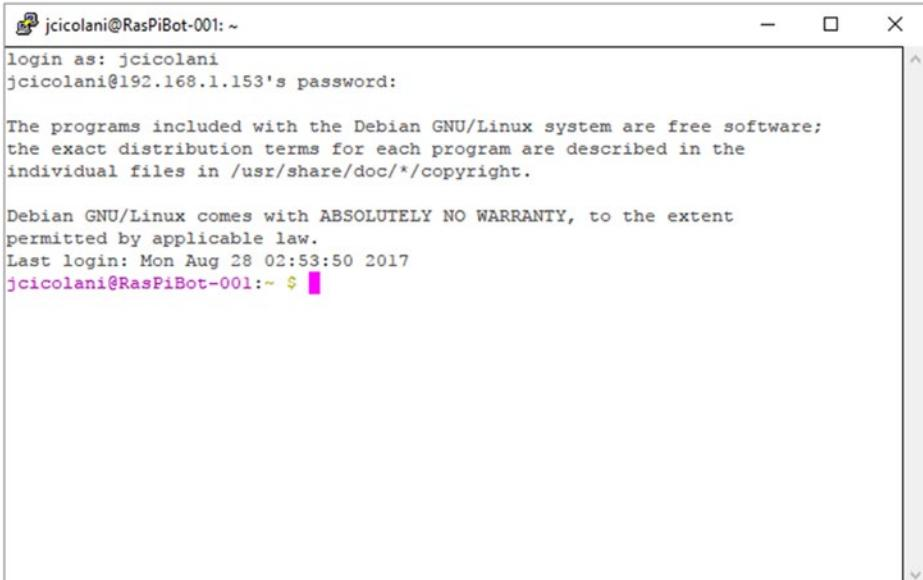

Figure 2-11. Security warning on first SSH connection with PuTTY
4. You will likely get a security warning, as shown in Figure 2-11, but we know that this is the proper connection, so click **Yes**.